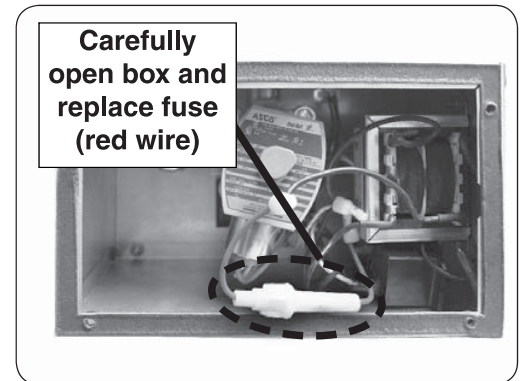

Fig. 34-3 Replace fuse
4. "Push in and twist" the fuse holder (red wire), exposing the fuse (see Fig. 34-3).